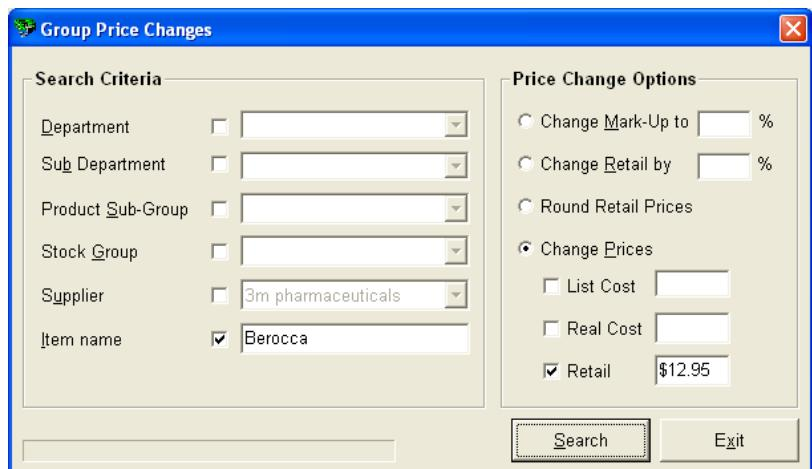

Figure 188
2. This will display the 'Group Price Changes' window (see Figure 188).
4. For example if you wanted to change all 'Berocca' products to have a retail of \$12.95 you would tick the 'Item Name' tick box and type in "Berocca". You would then select the 'Change Prices' option and then set 'Retail' to \$12.95, (see Figure 188).